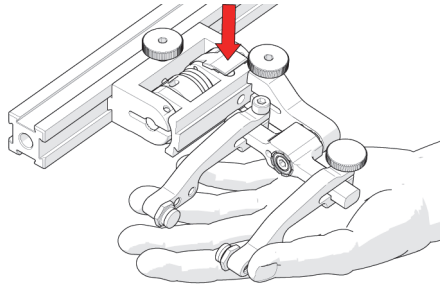

Figure 2-34 Lift probe and latch
1. Ensure the probe holder is in the upright latched position (see Figure 2-34 on page 61).